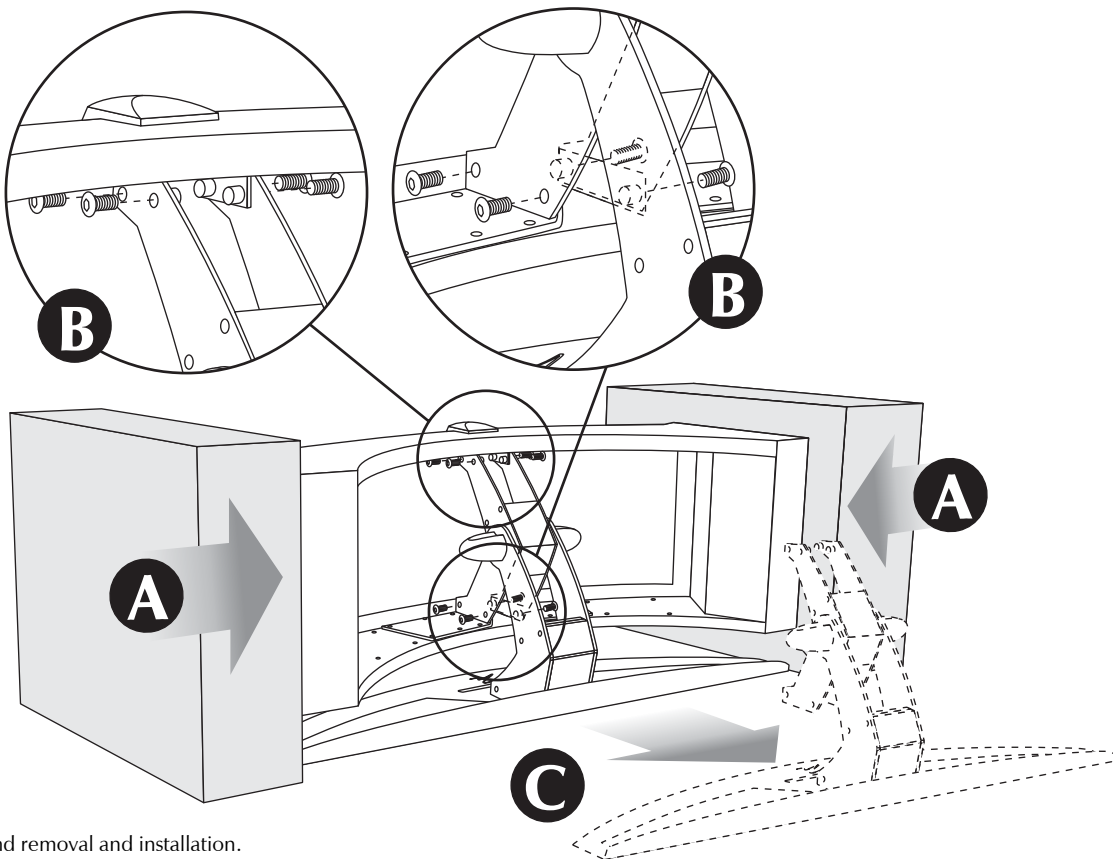

Figure 6. Stand removal and installation.
- 1 Support the Theater i body by placing the shipping foam on both ends of the speaker, or setting a stack of books beneath both ends of the speaker cabinet. The mount should hang down from the Theater i and contact the surface of your table or floor (see figure 6, step A).
1/8" Allen tool to remove 2 screws from each of the 4 brackets (see figure 6, step B).
- 3 To remove the stand, simply pull it back, away from the Theater i cabinet (see figure 6, step C).
- 1 Support the Theater i body by placing the shipping foam on both ends of the speaker, or setting a stack of books beneath both ends of the speaker cabinet. The speaker cabinet should be raised high enough that when the stand is moved into place, it can rest on the surface of the table or floor (see figure 6, step A).
- 2 Carefully slide the stand into place so that it aligns with the 4 brackets already attached to the Theater i cabinet (see figure 6, step C).
- 3 Using a 1/8" Allen tool insert and tighten 2 screws into each of the 4 brackets (see figure 6, step B).